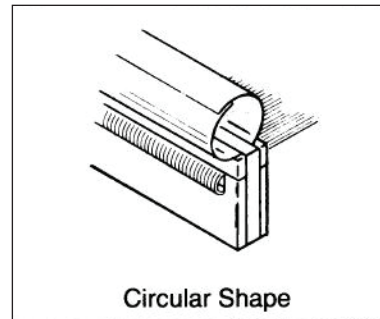

Figure 7
- 7.2 Bring ends together to form circular or tear-drop shape. (Figure 7 & 8)